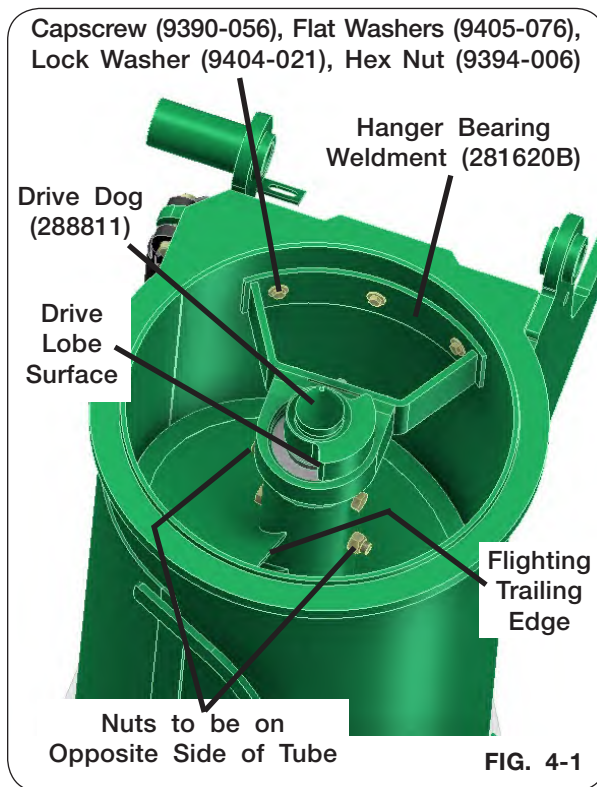

FIG. 4-1
2. Loosen the setscrews (9399-209) on all flangette bearings (92916) (Fig. 4-1).
1. Remove the three 3/8"-16UNC x 1 1/4" capscrews (9390-056), six 3/8" flat washers (9405-076), three 3/8" lock washers (9404-021) and 3/8"-16UNC hex nuts (9394-006) which secures the hanger bearing weldment (281620B) to the auger tube (Fig. 4-1).
3. Remove the two 5/8"-11UNC x 6" capscrews (9390-136), 5/8" lock washers (9404-029) and 5/8"-11UNC hex nuts (9394-014) which secures the drive dog to the auger as shown in FIG 4-1.
Lower Auger: Assemble the drive dog weldment (288811) and hanger bearing weldment (281620B) to the auger making sure the drive dog weldment contact surface (for upper auger pin) is located approximately 30 degrees behind the lower auger flighting trailing edge. Secure with two 5/8"-11UNC x 6" capscrews (9390-136), 5/8" lock washers (9404-029) and 5/8"-11UNC hex nuts (9394-014), installed opposite of each other, as shown in Fig. 4-1.